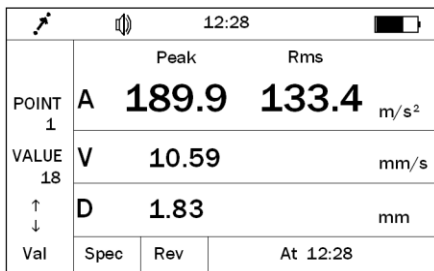
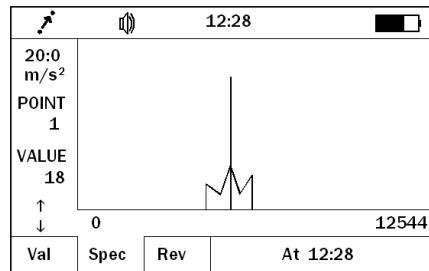
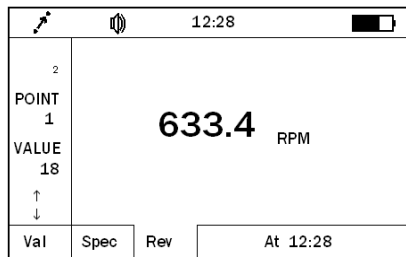

Figure 4.1a Common mode
Figure 4.1b Special mode
Figure 4.1c Rev mode
- Measure model: Press  to select the measure model: Common model, Spectrum model and Rev model(refer to Figure 4.1a, Figure 4.1b, Figure 4.1c).
**Common mode:** show the main parameters(see figure 4.1a)
**Spectrum mode:** show the spectrum chart (see figure4.1b)
**Rev mode:** show the Rev value(see figure 4.1c)